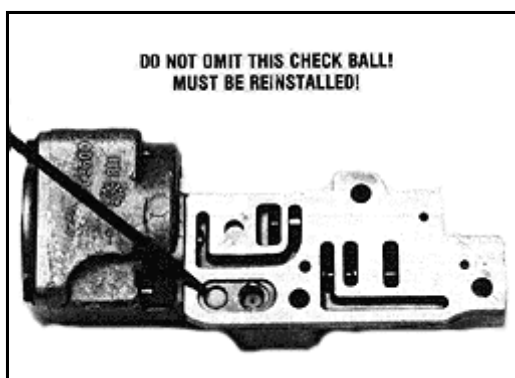

Figure 9
STEP 8 Place the separator plate with gasket against the transmission case. Install the small support plate (1982-1986) or auxiliary valve body plate (1987 and later). Install check ball (**See Figure 9**) and four (4) OEM bolts loosely. Insert two (2) valve body bolts into the two (2) alignment holes in the separator plate. Tighten the support plate bolts. Remove two (2) valve body bolts from the alignment holes.
STEP 9 **INSTALL VALVE BODY:** Be sure to engage manual valve with linkage properly. Do not force the valve or bend the linkage during assembly. Install one (1) valve body bolt to hold the valve body into place. **DO NOT TIGHTEN BOLT**